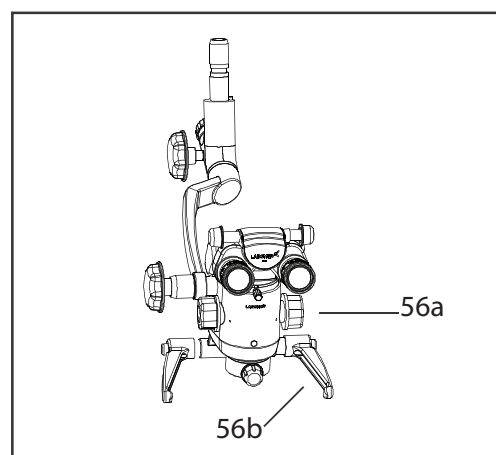

Fig. 56
(Ref. Fig. 56)
3. Absolute centering of focused area in field of view can be done by manual handles (56b).in Dental application and with front handles Fig 56(c).